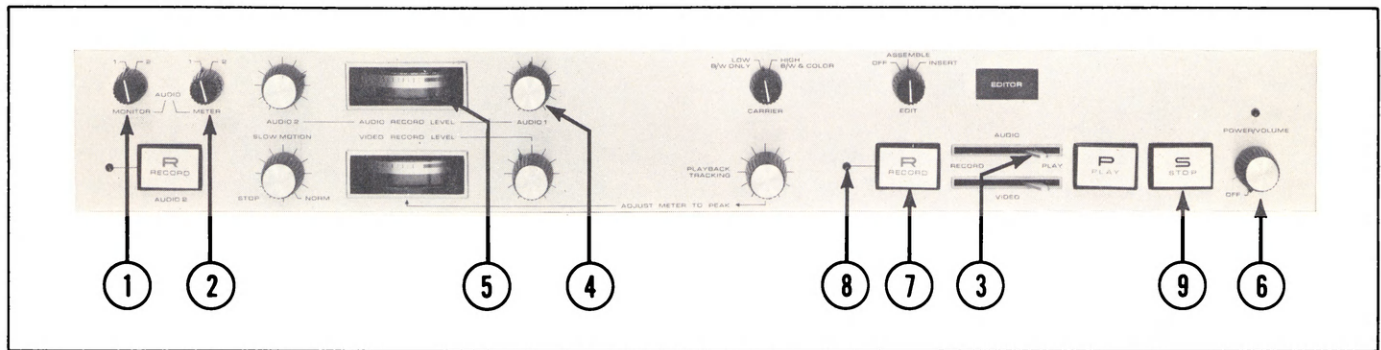

Figure 12 Recording Audio 1 Channel Only Operation
2. Set the Audio Monitor and Meter selectors (item 1 and 2, figure 12) to the "1" position.
3. Place the Audio Record/Play Lever (item 3, figure 12) to the left-hand (RECORD) position. DO NOT move the Video Record/Play Lever.
4. Adjust the Audio 1 Record Level control (item 4,
figure 12) for a 100% indication (during peak sound levels) on the Audio Record Level meter (item 5, figure 12). The Power/Volume control (item 6, figure 12) can be turned up to monitor the audio 1 input from the internal speaker if desired.
5. Depress the Main Record button (item 7, figure 12) to start tape movement and recording audio 1. The red Record Indicator (item 8, figure 12) will light at this point.
6. To terminate the recording, depress the Stop button (item 9, figure 12). To begin recording again, simply depress the Main Record button (item 7, figure 12).